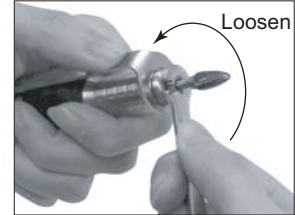

Fig. 6
- * The collet might be fastened and the cutting tool could not be removed, if the cutting tool with large diameter is used under a high torque. Align the nose's slit and Attachment's wrench position, and put an L shaped wrench to fix the Attachment. Open the ring, remove the dust proof cap to the tip of the collet and turn the collet counterclockwise with a wrench for replacing collets to remove it (Fig. 6).